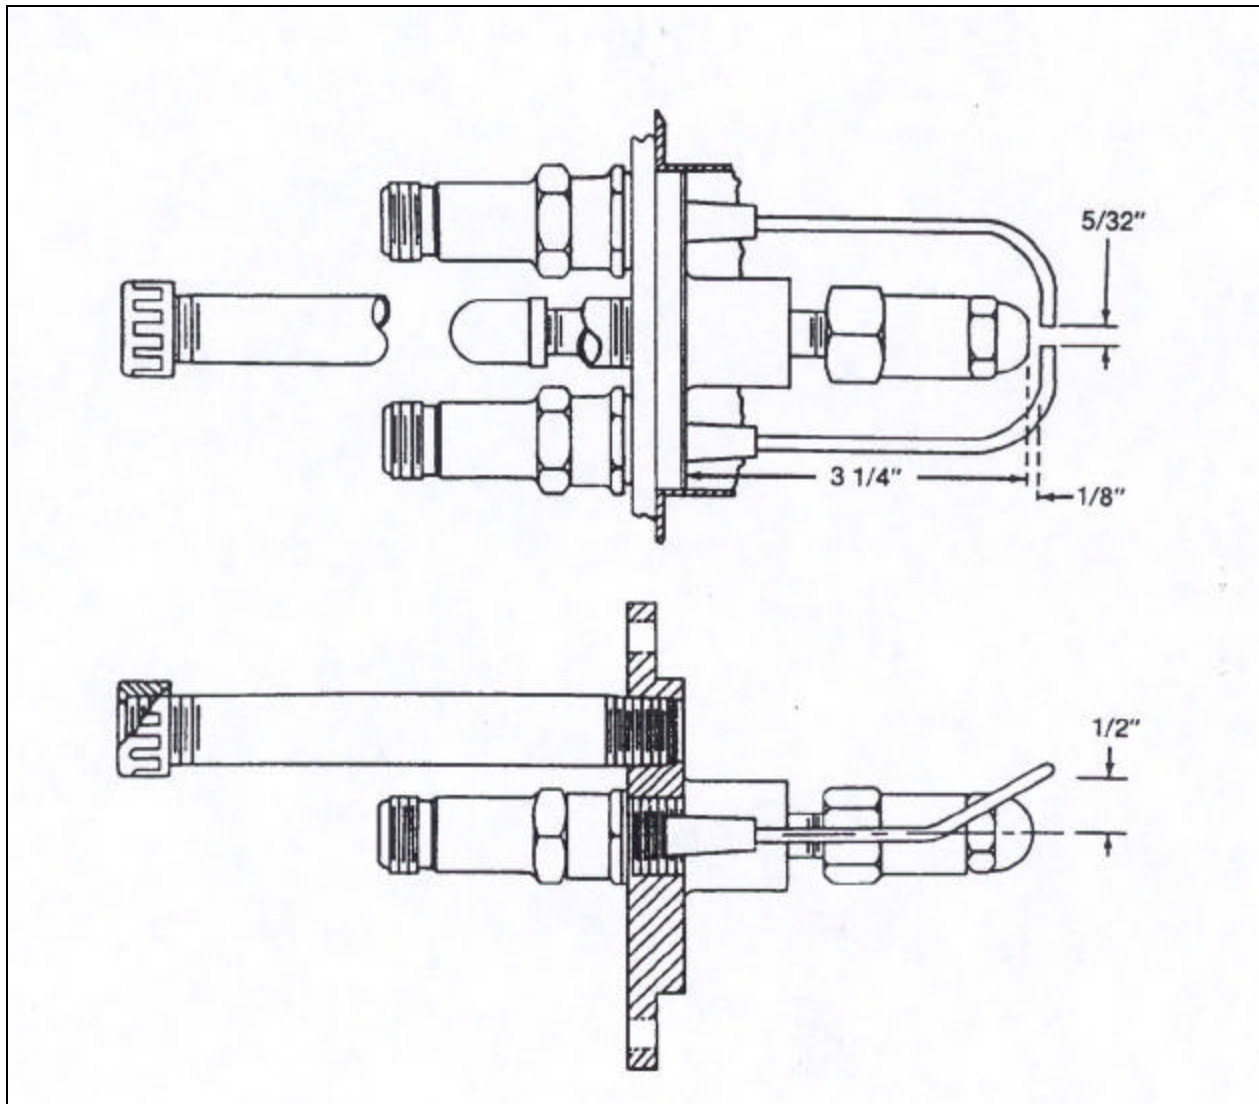

Figure 5-13
(5) Adjustments (Refer to Figure 5-13)
(a) Bend spark plug electrodes until spark gap is five thirty seconds of an inch ($5/32''$), and electrodes are located one-eighth of an inch ($1/8''$) outward and one-half of an inch ($1/2''$) upward from hole on burner nozzle as shown. **(Figure 5-13)**